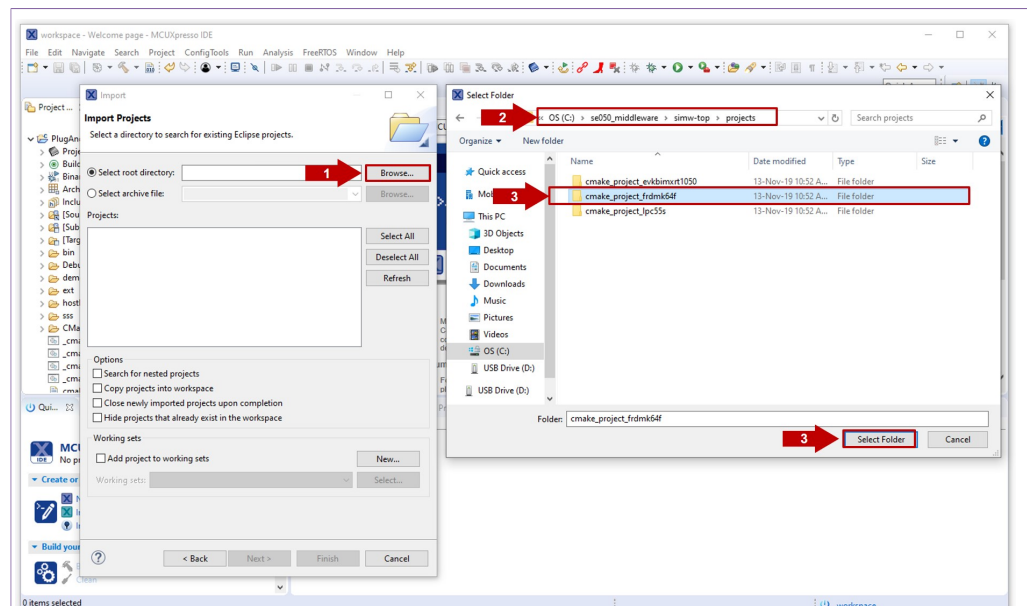

Figure 32. Select FRDM-K64F projects folder
- In the *Select root directory* option, browse to `C:\se050_middleware\simw-top\projects` or browse the location of your FRDM-K64F projects directory. Choose the `cmake_projects_frdm64f` project and click *Select folder* as shown in Figure 32: